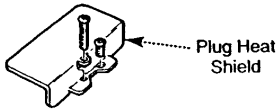

Fig. 20
1. Undo the two screws holding the electrical plug, socket and heat shield to the left hand side of the base tray (Fig. 20).